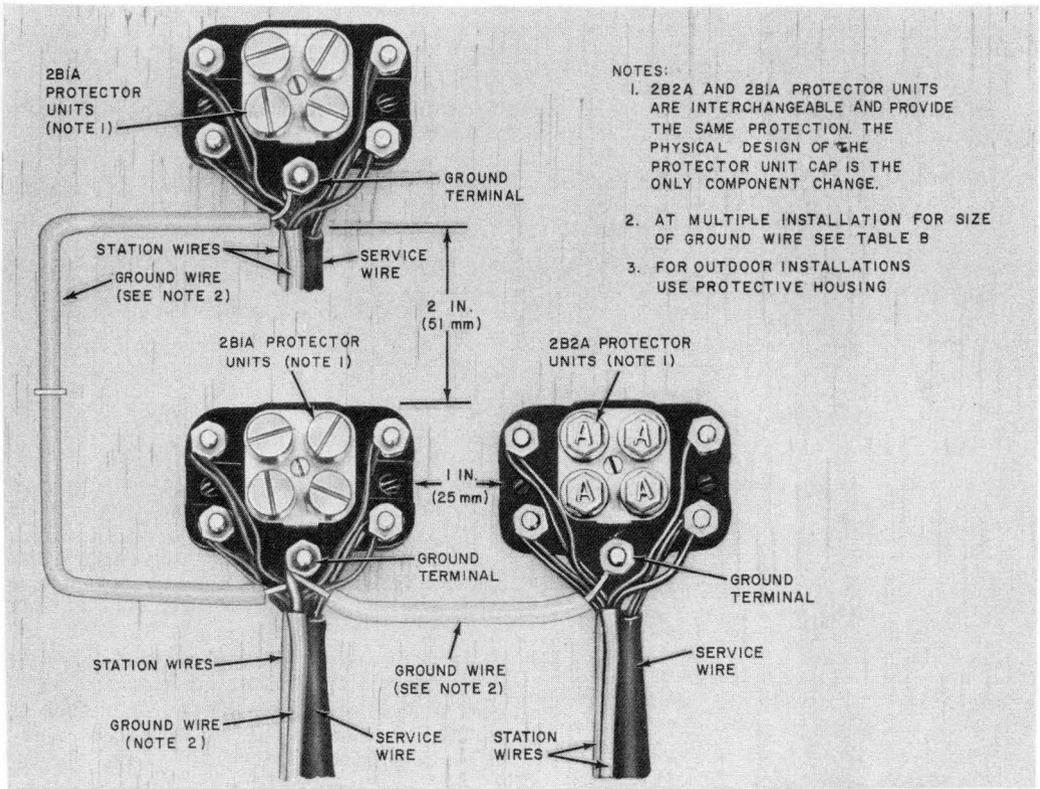

Fig. 31—Installation Protectors in Multiple
4.02 Where more than one protector is installed at the same indoor location, provide a 1-inch separation when protectors are horizontally mounted and a 2-inch separation when protectors are vertically mounted (Fig. 31). When more than one 123- or 128-type protector is installed at the same outdoor location, the protectors may be installed in a C or D customer service closure.